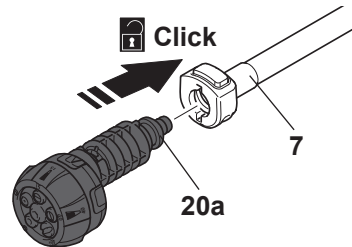

Fig. 5
3. Align the tongues (20a) of the 5 in 1 nozzle with the grooves of the extension lance (7) connection port (Fig. 5).